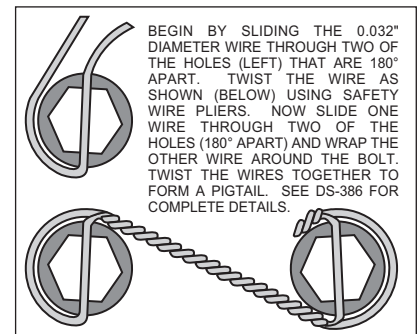

Figure 4. Safety Wire Diagram
- 2007 - present spindles may require light machining with a grinder to smooth parting line edge at original caliper mount ears in order for the Wilwood caliper bracket to fit. Please see figure 4, page 3 for instructions. Before assembly, examine the necessity of this modification by inspecting the spindle and bracket interface and your ability to perform this modification before assembling any parts.
- With the larger I.D. side of the rotor (3) facing away from the hat (4), bolt rotor (3) to hat (4) through the backside of the rotor using washers (5) and bolts (6). Be sure all bolts thread in smoothly and are snug. Then, torque all bolts in an alternating sequence to 85 **in-lbs**. The rotor mounting bolts (6) must be lockwired using standard 0.032 inch diameter stainless steel safety wire as shown in Figure 4. Please refer to Wilwood's data sheet DS-386 (available at [www.wilwood.com/Pdf/DataSheets/ds386.pdf](http://www.wilwood.com/Pdf/DataSheets/ds386.pdf)) for complete safety wire installation instructions.
- Install one shim (11) over each stud (10) on the radial mount bracket (1). Slide the caliper (7) in place over the studs and rotor and install the washer (9) and lock nut (8) to hold the caliper in place. The caliper bleed screws should be pointing up. Snug the lock nuts (8) and check that the rotor (3) is centered in the caliper (7). Add or subtract .029" shims (2) as necessary between the caliper mount bracket (1) and the caliper mount bosses on the spindle to center the caliper (7).
- Remove the two caliper pad retaining pins from the caliper (1) by popping out the pin retaining clips and sliding out the pins. Slide the brake pads (12) into place. They should install easily without interference. Check that the outside radius of the brake pad is aligned with the outside diameter radius of the rotor face. Add or subtract shims (11) between the caliper and mount bracket to gain the proper alignment. Reinstall the pad retaining pins and secure using the pin retaining clips.
- Once all clearances have been checked, remove the wheel, caliper and rotor from the spindle and hub. Secure the caliper mounting bracket (1) to the spindle using red *Loctite*® 271 on the bolt threads. Torque the bolts to manufacturer's specifications. Reinstall the rotor and again use several lug nuts to hold it in place. Lubricate caliper mounting studs and nuts with lightweight oil, reinstall the caliper, torque the caliper nuts (8) to 47 ft-lbs.